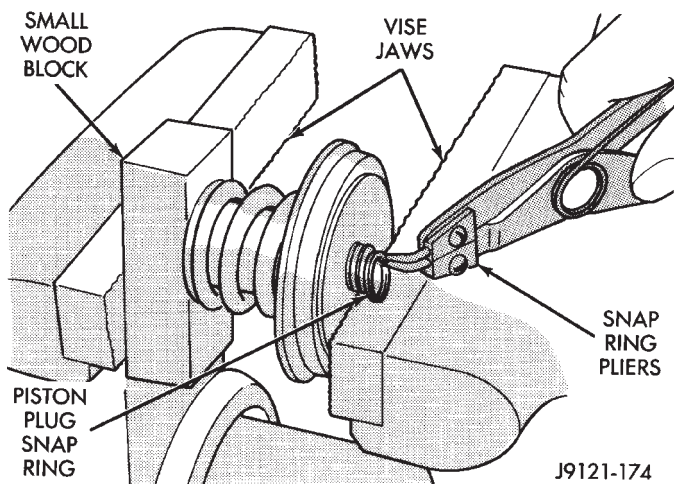

Fig. 97 Removing/Installing Servo Piston Plug Snap Ring
(1) Remove seal from servo piston. Note which way seal lip faces for assembly reference.
(2) Compress cushion spring in vise only enough to allow piston plug snap ring removal (Fig. 97). Use wood block between vise jaws and end of piston plug to keep plug aligned and in position.
(3) Remove snap ring from end of piston plug (Fig. 97).
(4) Open vise and remove wood block, piston plug, cushion spring and servo piston.